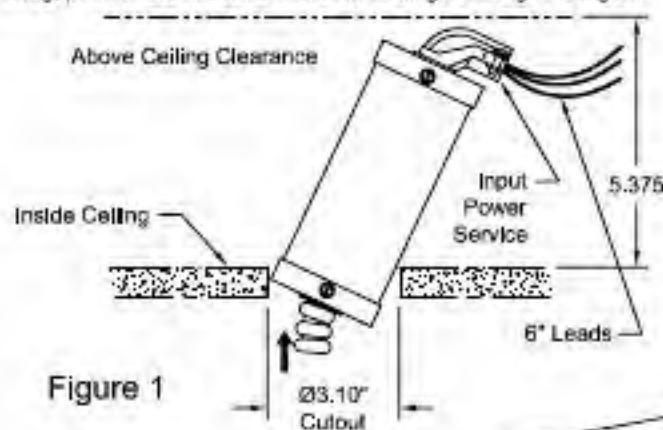
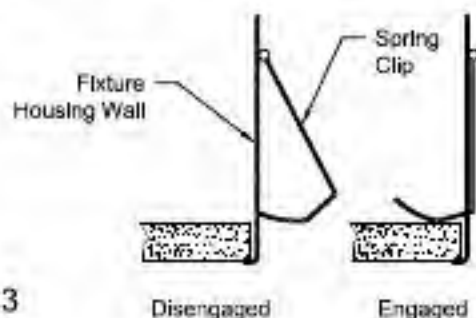
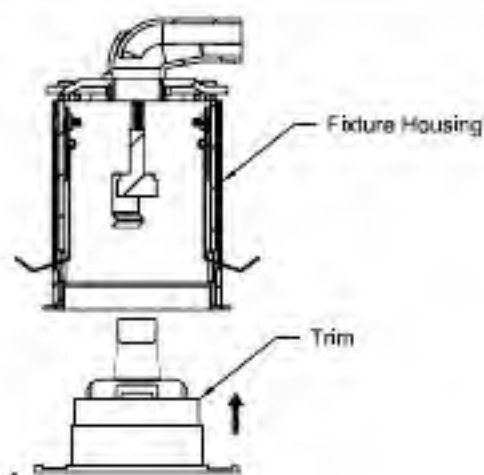
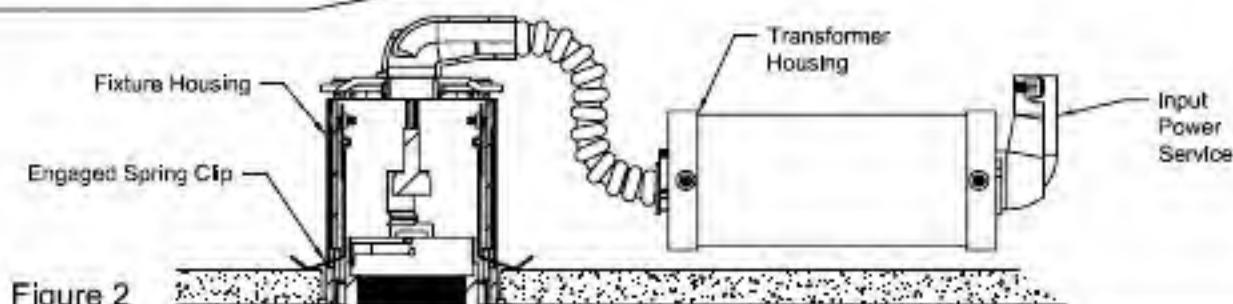

Figure 1
Figure 3
Figure 4
Figure 2
1. Check for Above Ceiling Clearance of 5.375. See Fig. 1.
2. Make Ø3.10" Cutout In Ceiling. See Fig. 1.
2. Connect electrical wires from Transformer Housing to Existing Electrical Service. See Fig. 1.
3. Insert Transformer Housing through Cutout In Ceiling. See Fig. 1.
4. Rotate Transformer Housing 90° and, with it resting on inside of Ceiling, push to side to clear Cutout In Ceiling. See Fig. 1 & Fig. 2.
1. Place Fixture Housing Into Ceiling Cutout being sure that the two (2) Spring Clips are Disengaged. See Fig. 2 & Fig. 3.
2. Holding Fixture Housing firmly in place, push Spring Clips outward to Engage. See Fig. 2 & Fig. 3.
3. Install Trim Into Fixture Housing until it Seats against the Ceiling. See Fig. 2 & Fig. 4.